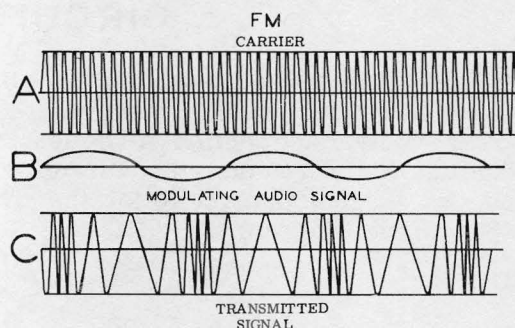

Figure 3
FM (frequency modulation) means that the carrier amplitude is held constant while the carrier frequency is varied above and below the station frequency at a rate determined by the audio being transmitted. This is illustrated in Figure 3. The audio signal (B) is applied to the RF carrier (A) to produce the FM signal (C). This signal, as received by the tuner's FM antenna, is applied through a band-pass filter consisting of L4, L5, and C30A, to the grid of the RF amplifier tube V5. The amplified signal from V5 is coupled to the grid of mixer tube V6A through L6 and C33.